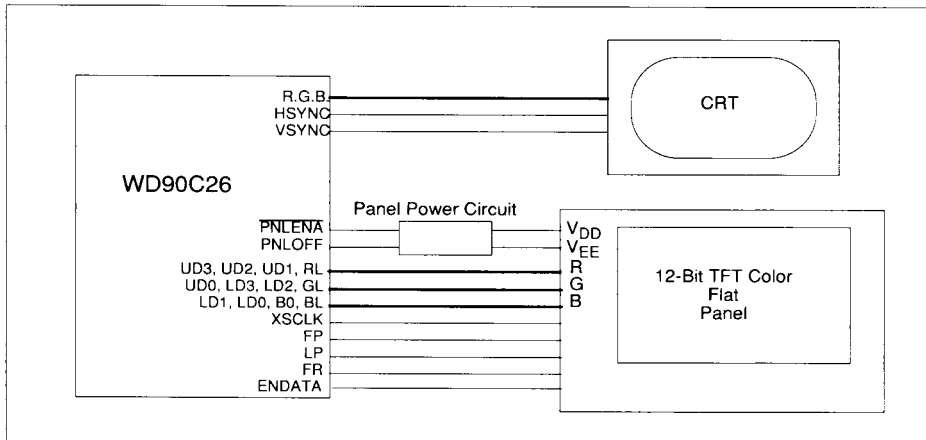

FIGURE 6-21 12-BIT COLOR LCD PANEL INTERFACE
- 12-Bit Color LCD Panel Interface (Figure 6-21)
When using a color panel with a 12-bit interface the LA22 through 21 address inputs become re-defined as the least significant red, green, and blue bits of the 12-bit interface. This makes it necessary for the system to provide the WD90C26 with decodes of the memory addresses in the "below-1 Mbyte" range. Figures 6-21 and 6-22 show two ways in which this can be done: by using the BLW1M input signal as an indication of address range, or by using the $\overline{\text{SMEMR}}$ and $\overline{\text{SMEMW}}$ memory strobes from the system buses.